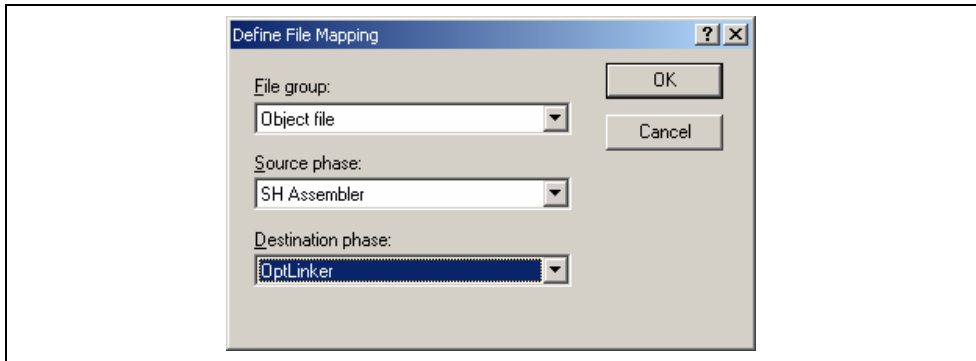

Figure 3.17: Define File Mapping Dialog
1. Click “Add...”. The “Define File Mapping” dialog will be invoked (figure 3.17).
2. Click “Modify...” button. The “Define File Mapping” dialog will be invoked (figure 3.17).